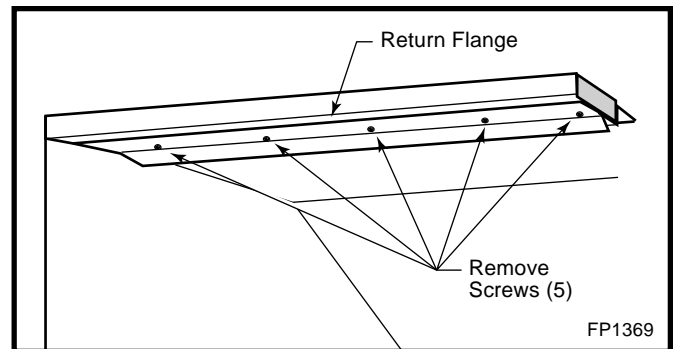

Fig. 40 Remove five (5) screws securing heat shield in place.
2. Using a Phillips or Robertson screwdriver, remove the heat shield located toward the front top of the fire box by unfastening the five (5) screws that secure the heat shield in place. (Fig. 40)